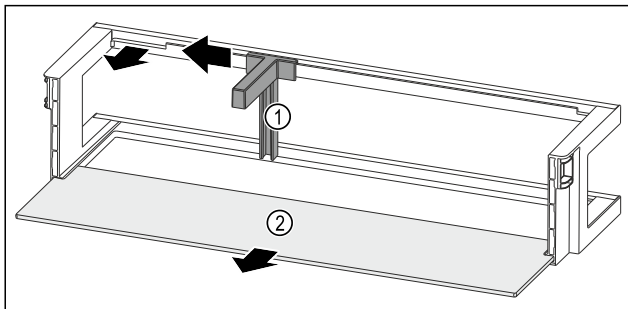

Fig. 49 Door rack with bottle holder and shelf
- ▶ Slide the bottle holder Fig. 49 (1) to the side as far as the recess.
- ▶ Remove the bottle holder Fig. 49 (1).
- ▶ Remove the shelf Fig. 49 (2).